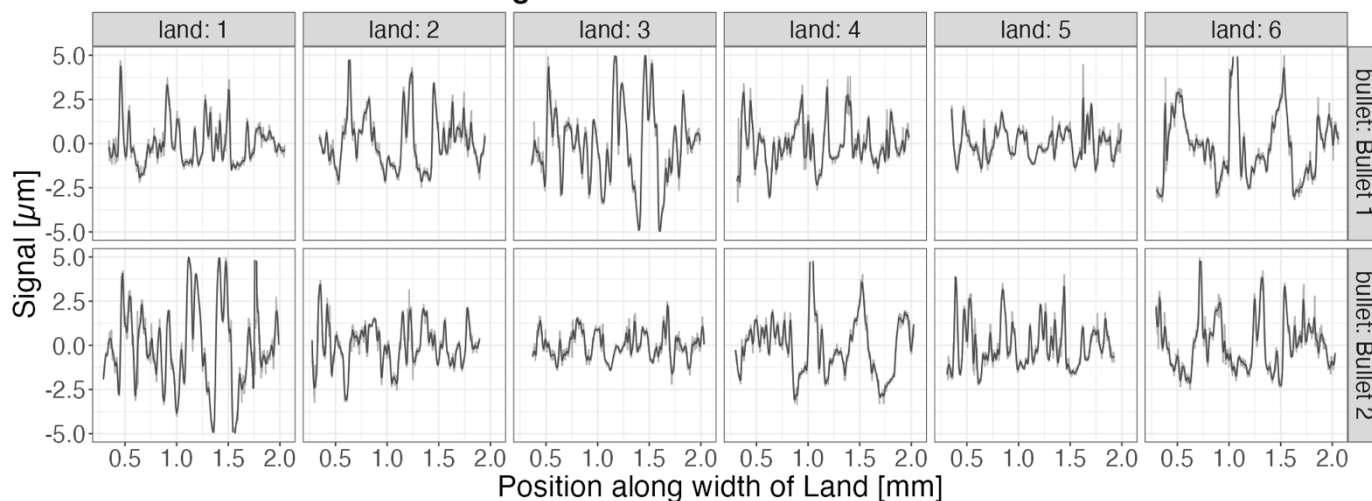

Figure 13. Signal plots for Bullet 1 and Bullet 2. The raw signal is displayed as a grey line and the LOESS-smoothed signal is displayed as a black line.
- The raw and LOESS-smoothed signals are plotted after the grooves are removed (Figure 13).